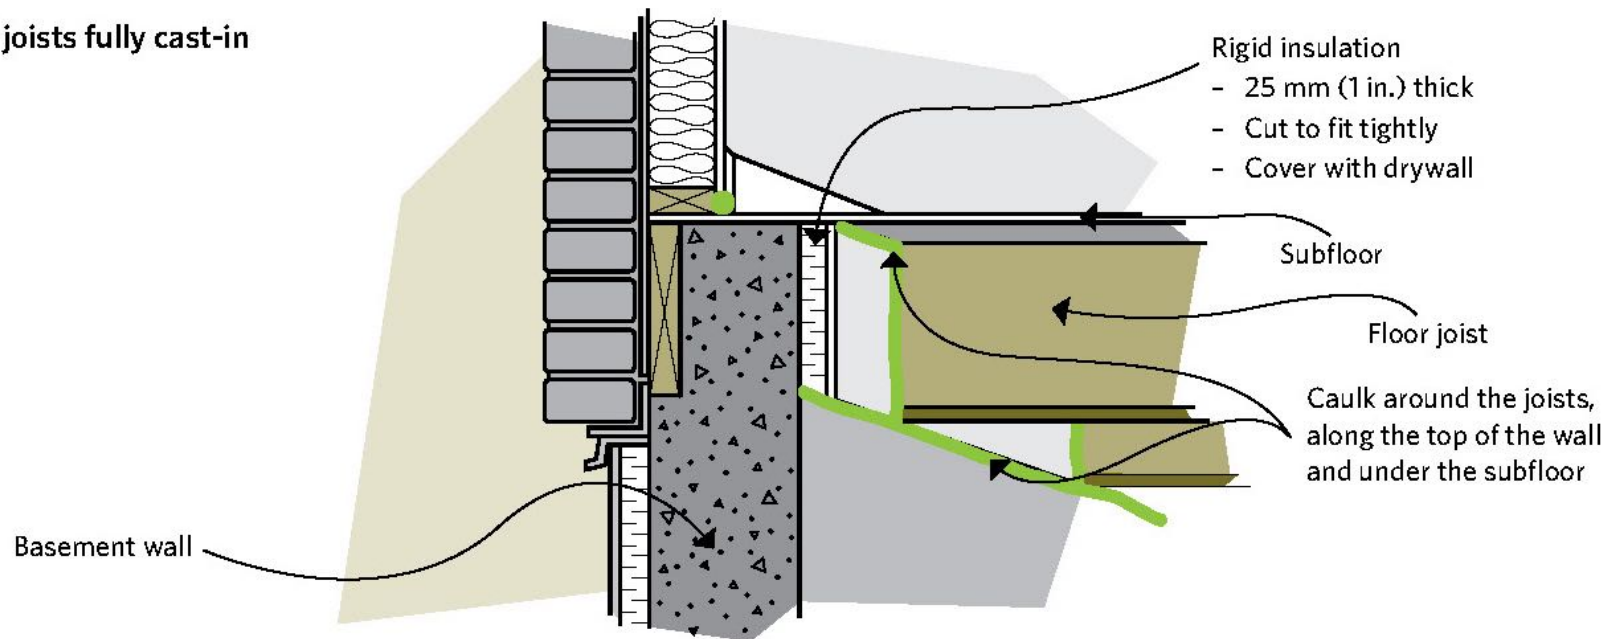

Figure 6-19 Insulating the joist header area
- floor joists on a sill plate (Figure 6-18, Part A and Figure 6-19, Part A)
- floor joists partially embedded in the foundation (Figure 6-18, Part B and Figure 6-19, Part B)
- floor joists fully embedded in the foundation (Figure 6-18, Part C and Figure 6-19, Part C)
Figure 6-19 shows how to air seal and insulate three common types of joist header spaces.
For all the approaches illustrated in Figure 6-18 and Figure 6-19, building codes may mandate levels of insulation, so check with your local authorities as to the recommended levels and practices.